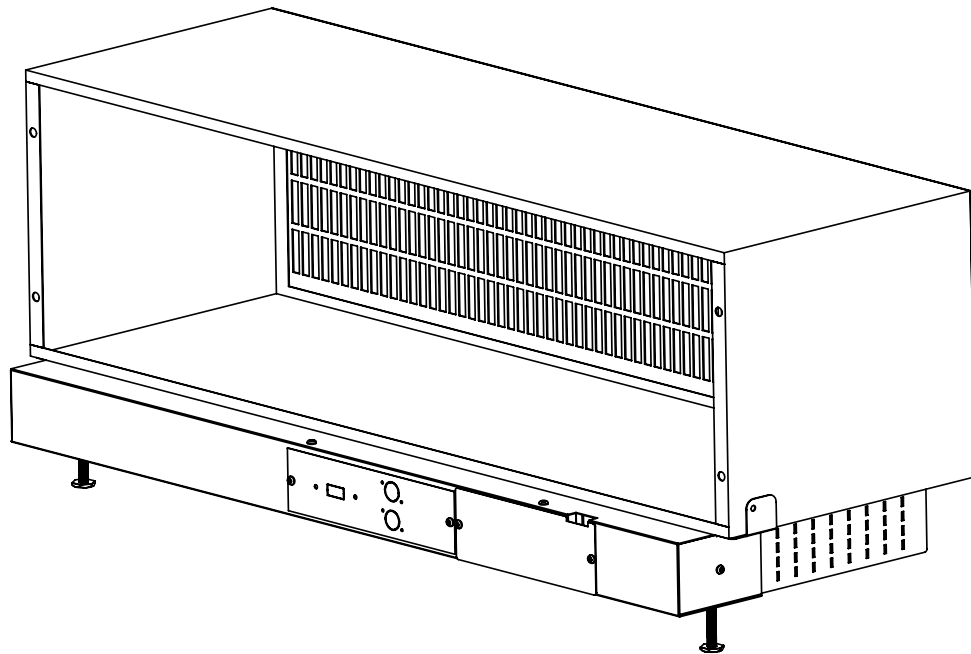

Fig. 4
Step 5 — Level subbase flush with floor by adjusting leveling bolts beneath each end of subbase. See Fig. 4 for completed subbase assembly.